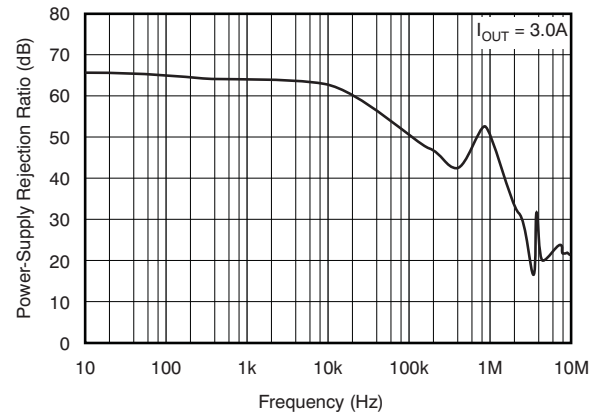
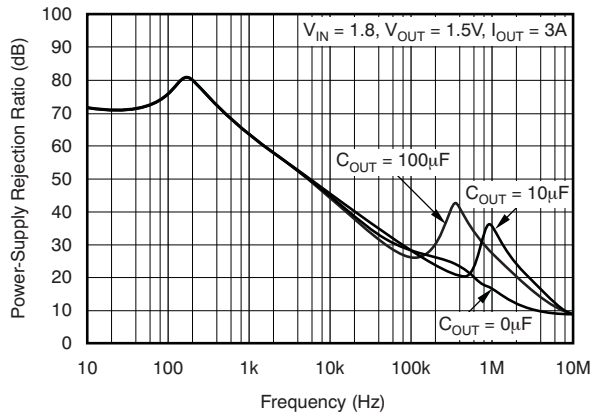

Figure 10.
Figure 13.
(1) Adjustable devices tested at 0.8 V; external resistor tolerance is not taken into account.
(2) Dropout is defined as the voltage from the input to V_{OUT} when V_{OUT} is 2% below nominal.
(3) I_{FB} current flow is out of the device.
(4) See Figure 10 to Figure 13 for PSRR at different conditions.